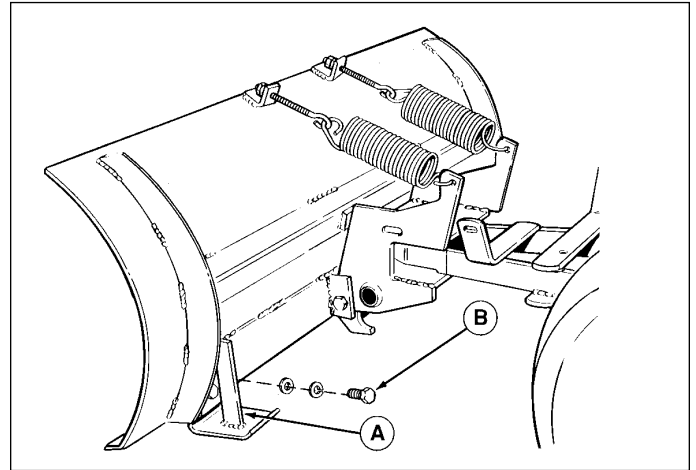

Figure 3.
Slotted holes are provided to permit adjustment of the shoe assemblies for raising and lowering the blade to various working heights (see Figure 3).
To adjust the skid, raise the blade off the ground and block with a piece of wood. Loosen the bolts (B, Figure 3) and move the skid shoes (A) up or down to desired height. Tighten the bolts securely.